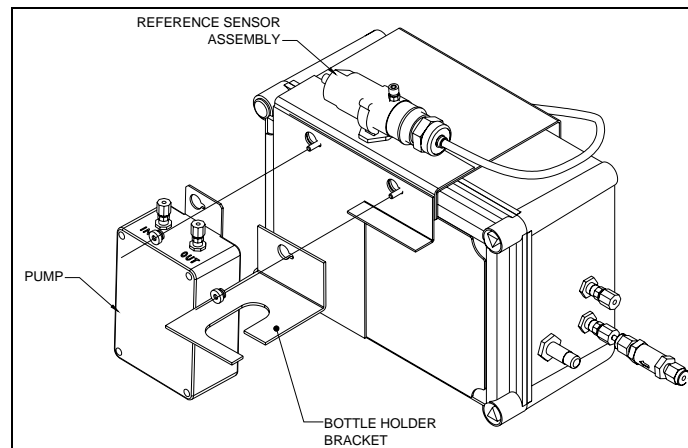

Figure 9
4. Refer to Figure 9. Align the slotted hole in the pump assembly over the left thumb screw, and then slide the pump assembly to the left to hold in position.